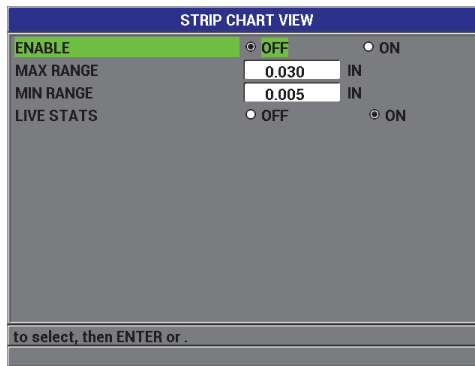

Figure 5-8 The STRIP CHART VIEW screen
3. In the **STRIP CHART VIEW** screen (see Figure 5-8 on page 99):